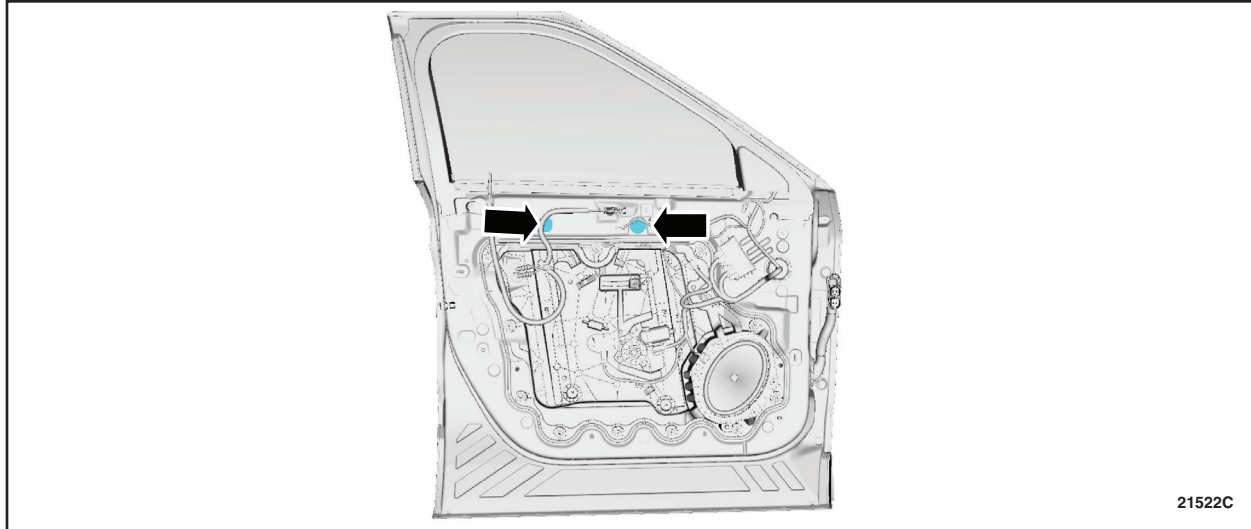

**FIGURE 3**
6. Disconnect the front door window regulator motor electrical connector and the front door side impact sensor electrical connector. Then release the front door wiring harness routing clips and position the front door wiring harness aside. See Figure 3.